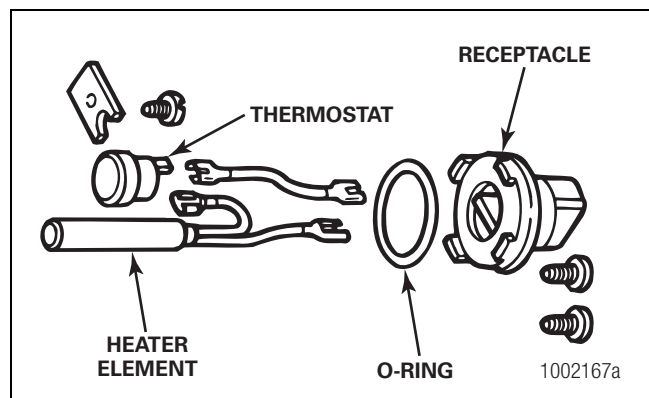

Figure 3.5
1. Review Figure 3.5 to ensure you have all of the parts required to replace the heater assembly.